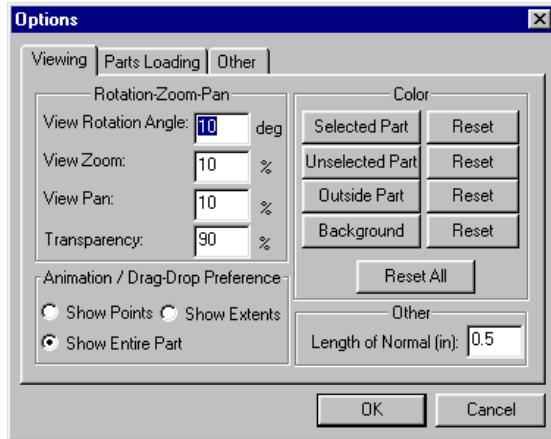

Figure 118. Options Dialog Box
- 2. Choose “Options”. This will bring up the “Options” dialog (Figure 118).**